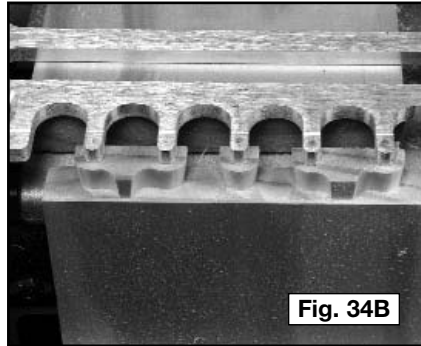

Fig. 34B
Step 3 - Use the router to round over the ends of the cuts (Fig. 34B).